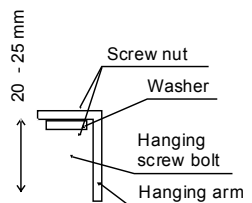
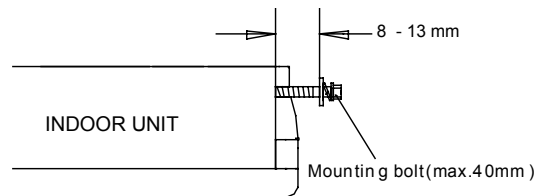

Fig. 5-15
Fig. 5-16
1. Locate the hanging arm on the hanging screw bolt.(Refer to Fig. 5-15). Prepare the mounting bolts on the unit.(Refer to Fig. 5-16)